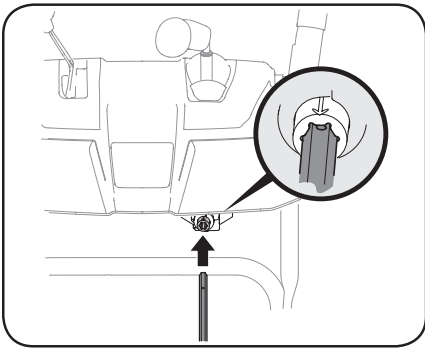

Figure 2-26
6. Insert chute control rod into pinion gear below joystick. Make sure to line up hole in rod with arrow on pinion gear. See Figure 2-26.